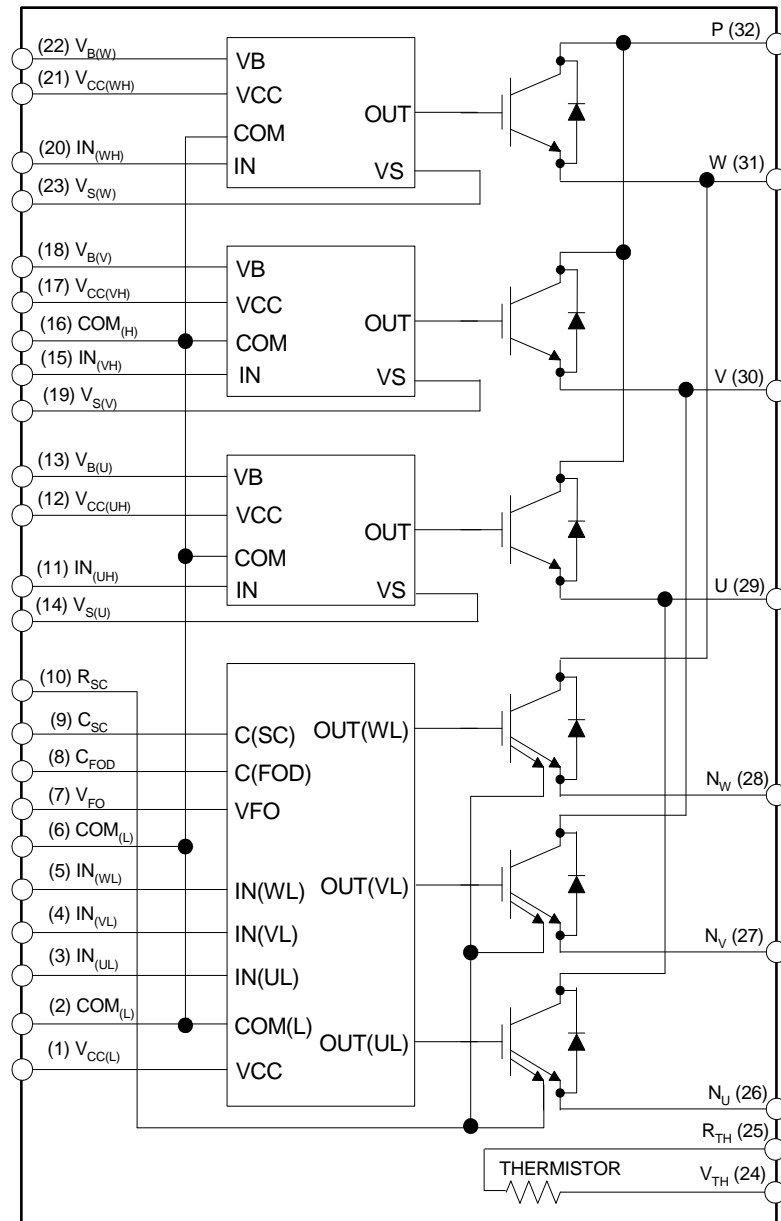

Figure 3. Internal Block Diagram
- 600V - 75 A IGBT inverter for three-phase DC / AC power conversion (please refer to Figure 3)